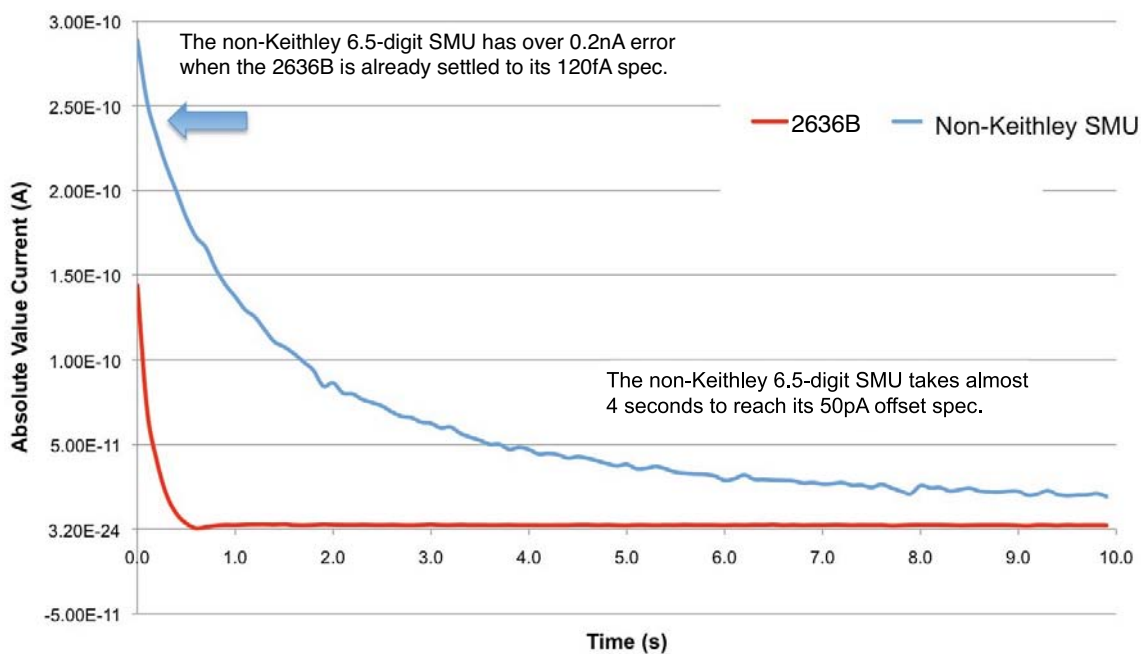

Figure 12. Comparison of measurement settling time, offset error, and noise.
- *Measurement settling time, offset error, and noise* can have a big impact on an SMU instrument’s performance, particularly in low current applications. The example illustrated in **Figure 12** shows the results of two SMU instruments sourcing 200V with nothing connected to the input terminals while measuring the resulting current using each instrument’s built-in ammeter feature. This comparison offers a good indication of each instrument’s fundamental low current performance, and it’s an easy test to recreate on the test bench.